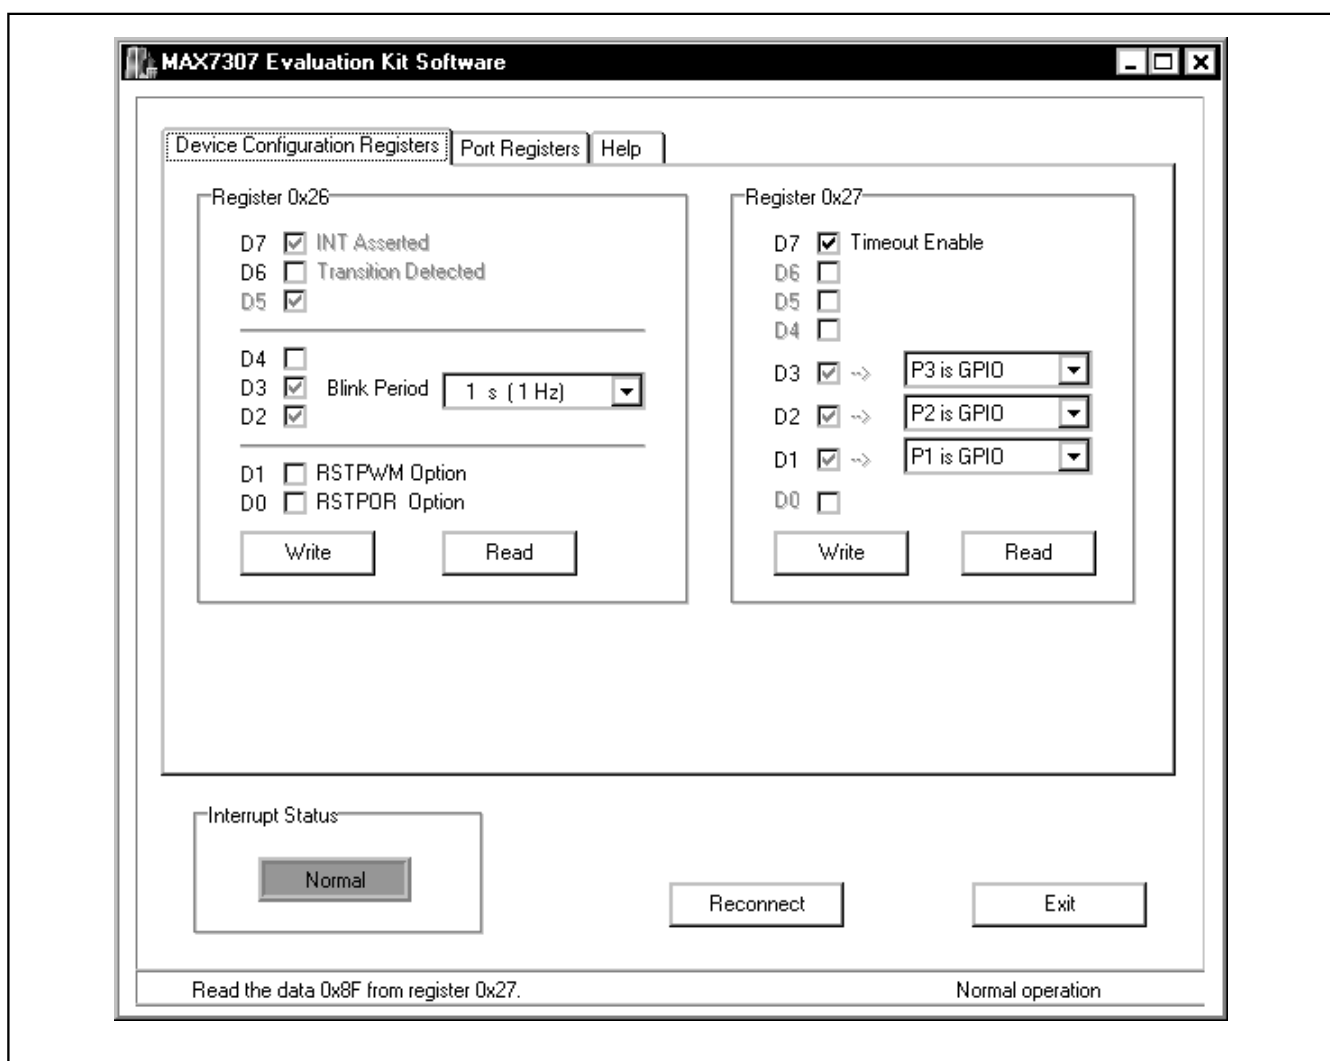

Figure 1. MAX7307 Evaluation Software Main Window (Device Configuration Registers Tab)
- 11) Start the MAX7307 EV kit software by opening its icon in the **Start** menu. The GUI main window will appear, as shown in Figure 1.
To start the MAX7307 EV kit software, double-click the MAX7307 EV kit icon that is created during installation. The GUI main window appears as shown in Figure 1.
The **Device Configuration Registers** tab shown in Figure 1 contains two group boxes: **Register 0x26** and **Register 0x27**.